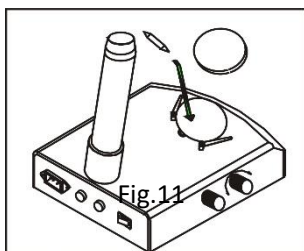

Fig.11
- 4) Recover the stage plate. (Fig.11)